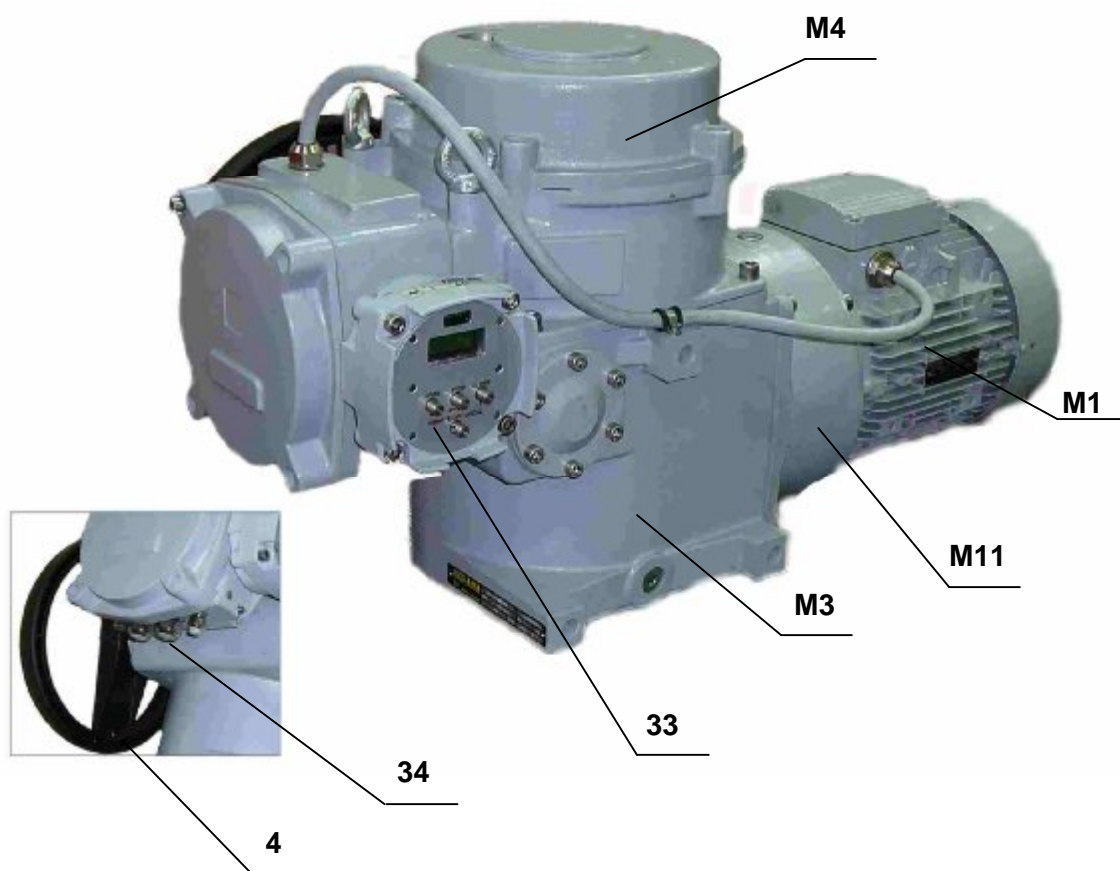
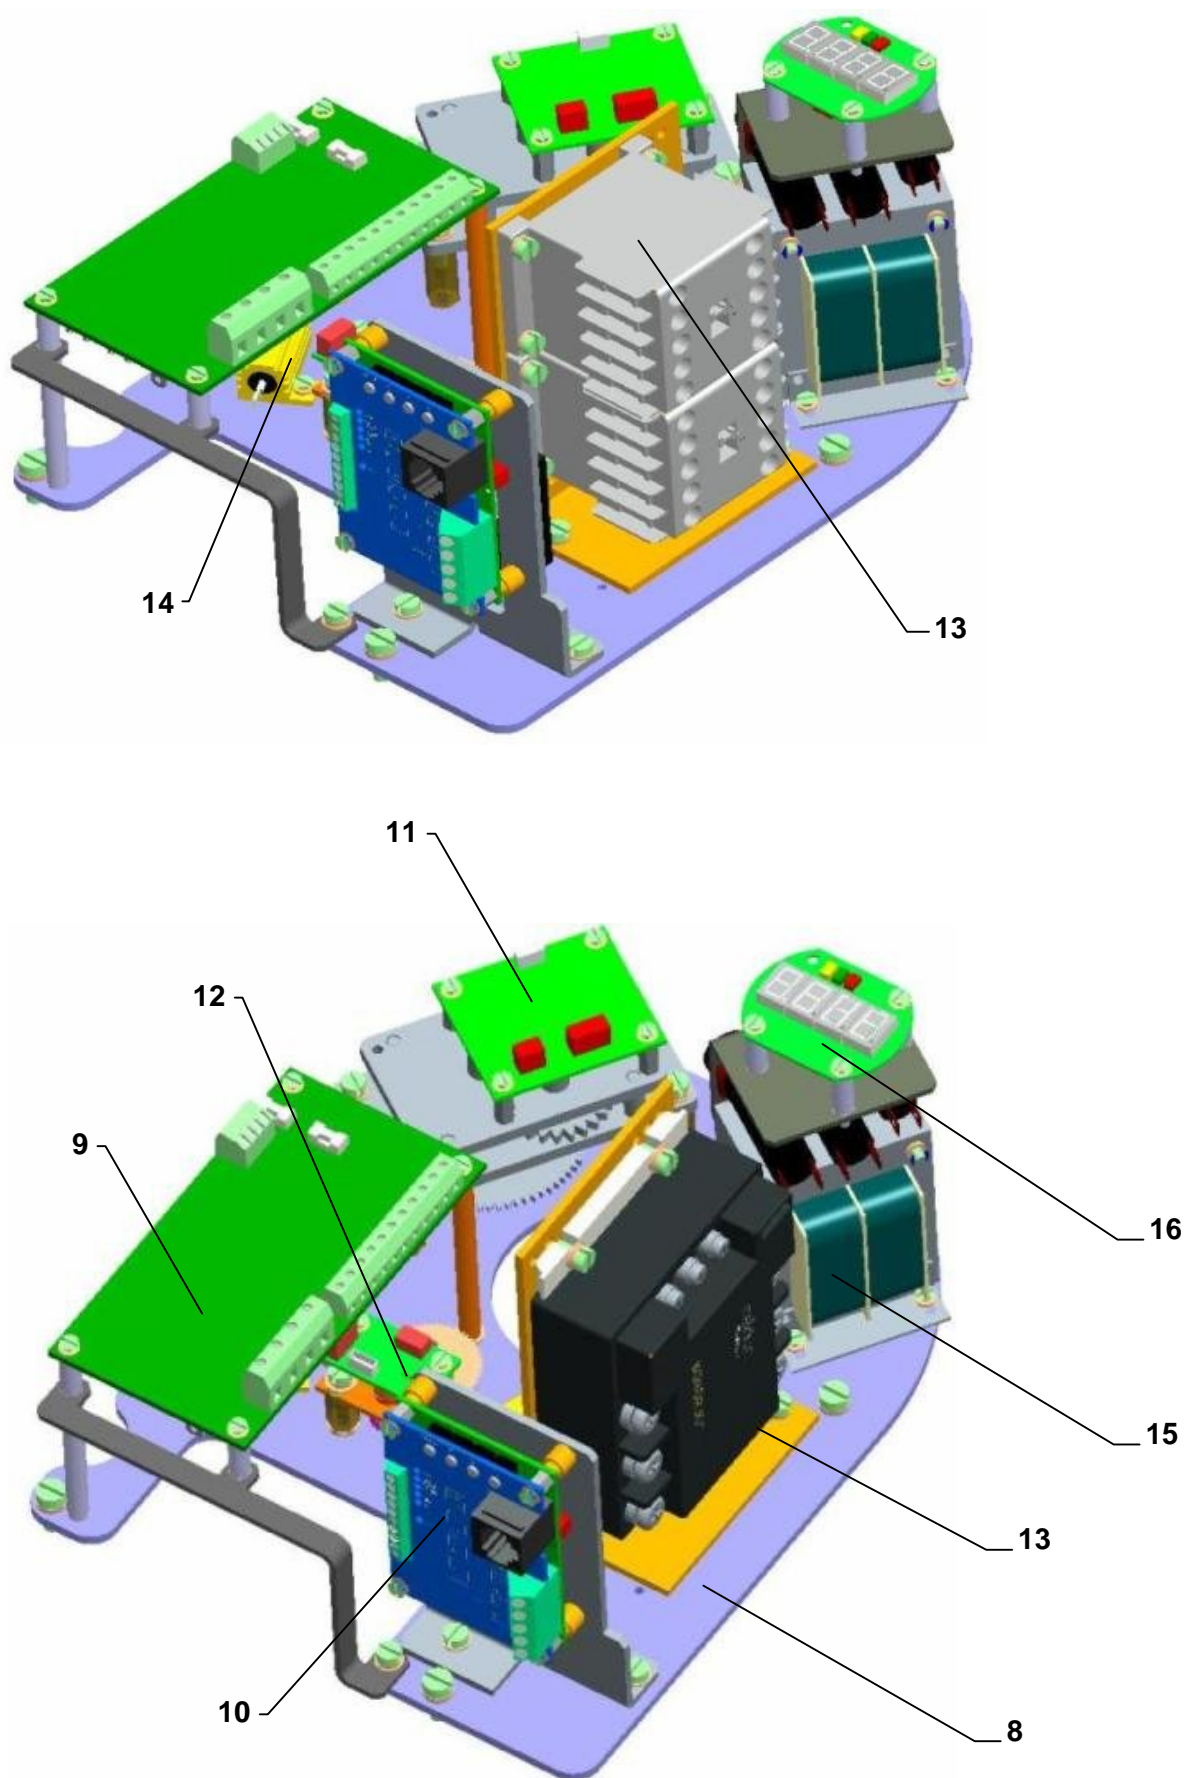

Fig.1 – MOR X.XPA
Fig.3 - MOR 3PA, MOR 3.4 PA, MOR 3.5PA, MOR 4PA
EA MOR X.XPA are of compact construction with several connected modules. They are composed of two functionally different main parts consisting of following modules (Fig.1):
Module M 4 – control box (Fig. 1)
The bottom part of control box closes the box of force transmission and forms carrying part of control plate Fig.3 and 3a.
The electric actuator is driven by an **electric motor (M1) (fig.1)** supplied from the **power supply board (9)** (fig.3, 3a) and **control unit (10)** (fig.3,3a) of the DMS3 electronics.
Space heater (14) (fig.3,3a) is placed at the mounting base (8) (fig.3,3a).
Control unit (10) (fig.3,3a) – main part of system DMS3 – it contains microprocessor, 6 signal LED and 4 buttons for simple adjustment and control of EA, connectors for connection of torque scanner and sourcing board and communication connector (connection to PC for adjustment and diagnostic), according to version 2 free programmable relays R1 and R 2, 1 relay READY and terminals for electric connection.
Position sensing unit (11) (fig.3, 3a) – secures contactless magnetic position sensing of output element.
Torque sensing unit (12) (fig.3, 3a) – provides contactless magnetic torque reading.
LED display (16) (fig.3, 3a) – shows instant position of EA output member and reports and displays potential errors, which would occur when EA is operated. Signalling motion and failure of the EA is also indicated by LEDs diode. LED display is used only pro type of construction EA without local control.
Manual control: made up by a handwheel with a worm gearing (4) (fig.1).
- Local electric control module equipped with a 2-line LCD display (33) (fig.1) resp. (fig. 7).